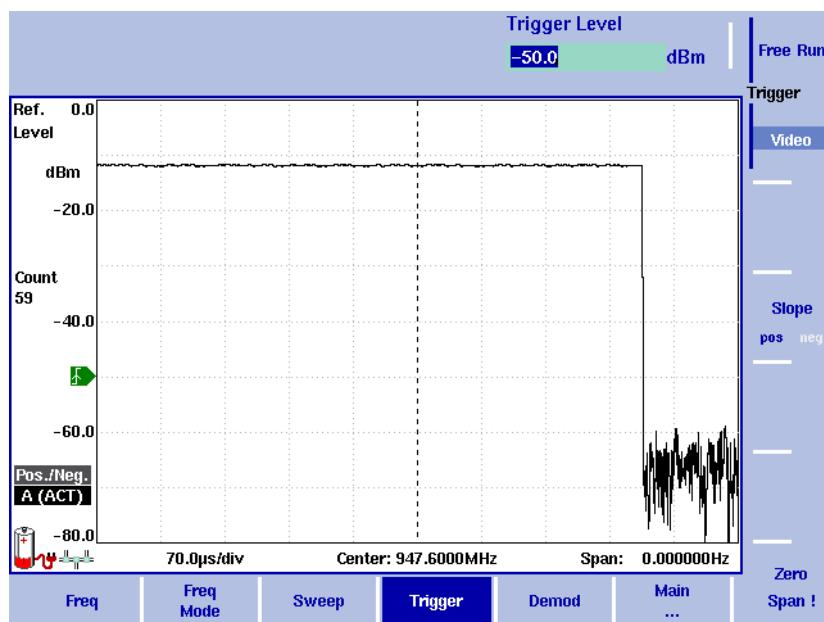

Figure 13 Triggered measurement (in the time domain)
- 4 If necessary, change the slope between positive and negative direction by pushing the **Slope** softkey. The active slope is indicated at the power axis, see Figure 13.